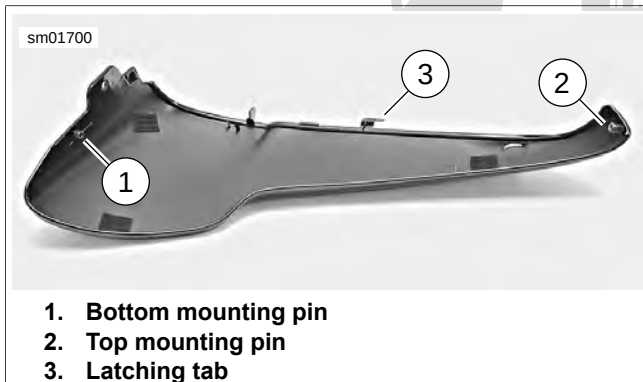

Figure 1-81. Radiator Side Cover (typical) (inside view)
3. See Figure 1-81. Radiator side cover is held in place by a bottom mounting pin (1), top mounting pin (2) and latching tab (3). Remove as follows:
1. See Figure 1-81. Position radiator side cover on radiator front cover and gently slide side cover upward until latching tab fits into tab mounting lip.